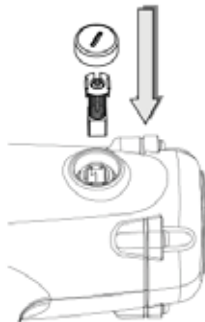

Fig. 5
- Put the new carbon brush and carbon brush panel back into the housing in proper order. (Fig. 5).